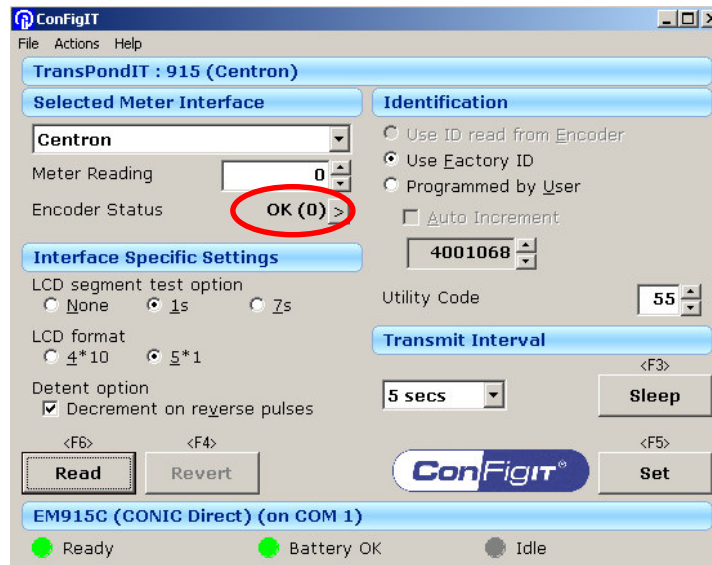

Figure 23: Reset status code
- 7) Select **Set or <F5>**. This writes the new values and reads numbers back for confirmation (see Figure 23).
- 8) Confirm that the status code is reset to (0). (see Figure 23)